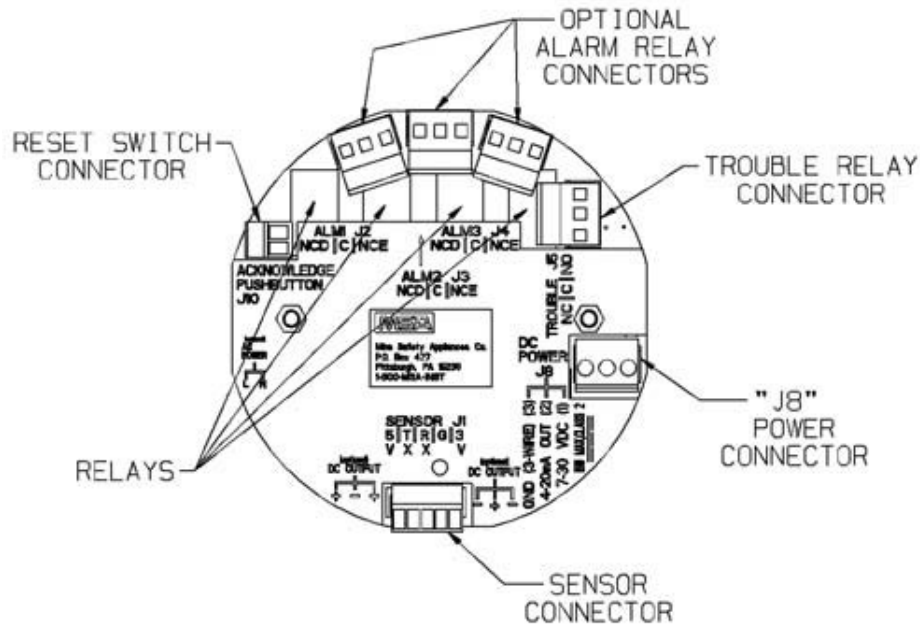

Fig. 30 Relay Printed Circuit Board
- (3) Route customer-supplied cable into the enclosure and connect to the appropriate wiring plugs.
- (4) Identify each conductor of the cable to enable proper connection at the control equipment.
- (5) If installing a RESET push-button:
- a) Route a two-conductor cable to terminal block J10 (Fig. 30).